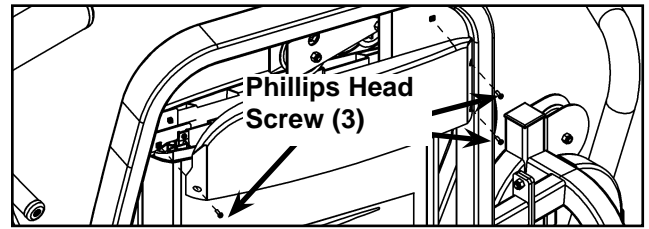

Figure 14
- C. Install the three Phillips head screws securing the top (back) shroud. See Figure 14.